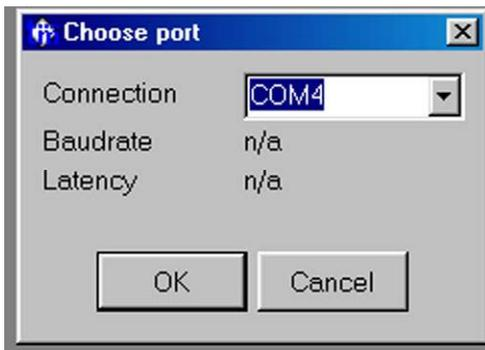

Fig 9.
- 6 The Choose port window will appear. ⇒ Fig 9. \(□ 17\). Choose the correct Connection (typically 'COM4' as shown).